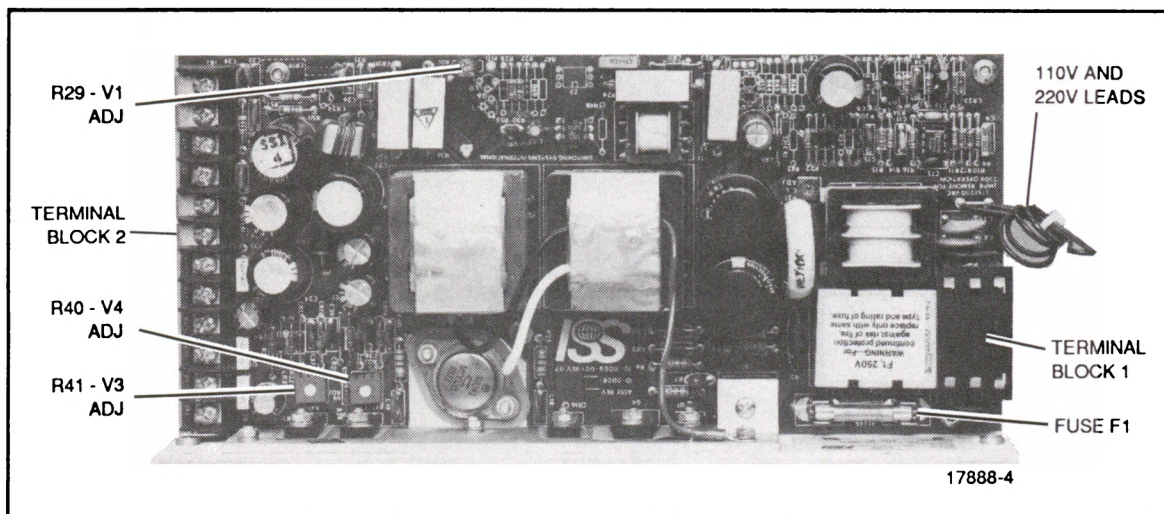

Figure 5-5. Edit Controller Power Supply (SSI Type)
Newer ACE 25 systems use an SSI-type power supply, shown in Figure 5-5. Terminal strip connections are similar to those shown in Table 5-1. Adjust the power supply as follows:
2. Adjust R29 on power supply to achieve a +5.1V reading on the voltmeter (see Figure 5-5).